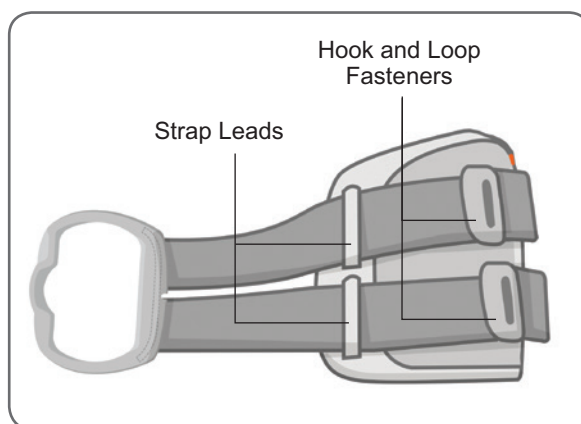

Figure 6-2: Lower Leg FS Cuff Strap attached to the Regular Lower Leg FS Cuff
- Slide the strap through the strap leads and buckles on the lower leg FS Cuff. Make sure the hook and loop fasteners face away from the lower leg FS Cuff. Press on the hook and loop fasteners to secure the strap. See Figure 6-2.